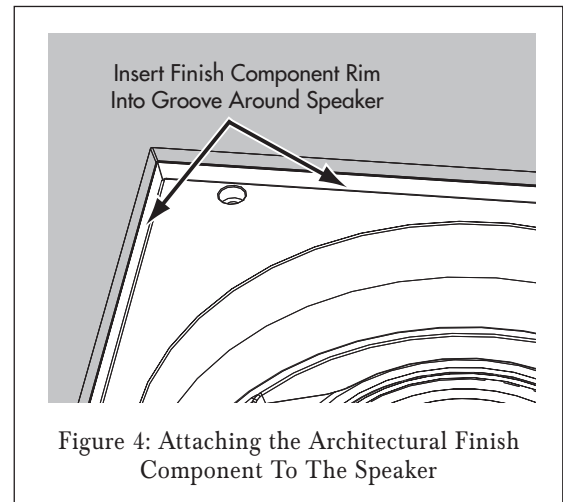

Figure 4: Attaching the Architectural Finish Component To The Speaker
- A) The Foam-Tape covered rim on the back of the Finish Component inserts into the groove around the outer edge of the Architectural Series speaker. See *Figure 4*.